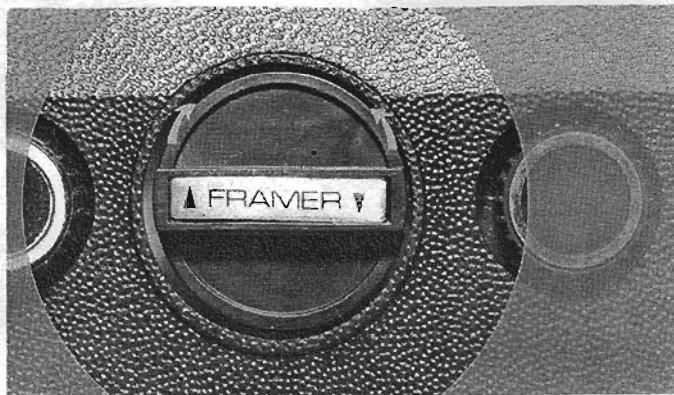
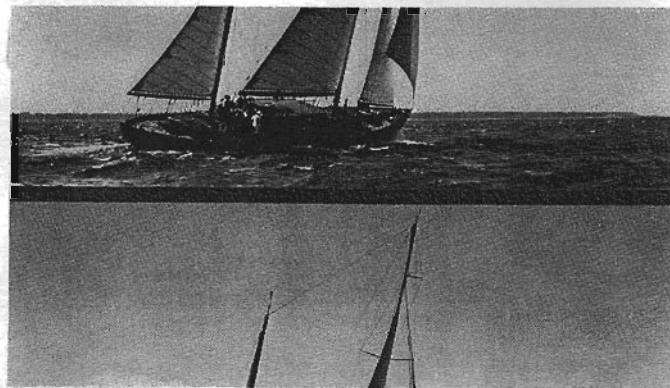

FIG. 10
FIG. 11
3. If a frame line or portion of next picture shows on the screen (Fig: 11), slowly turn framer adjustment knob (Fig. 10) until picture is centered.